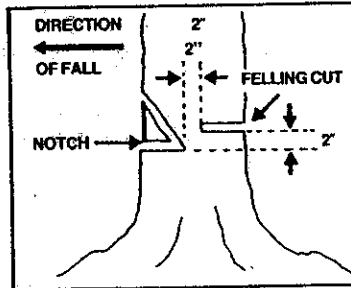

Figure 23
- a. Make the notch cut. Figure 23.